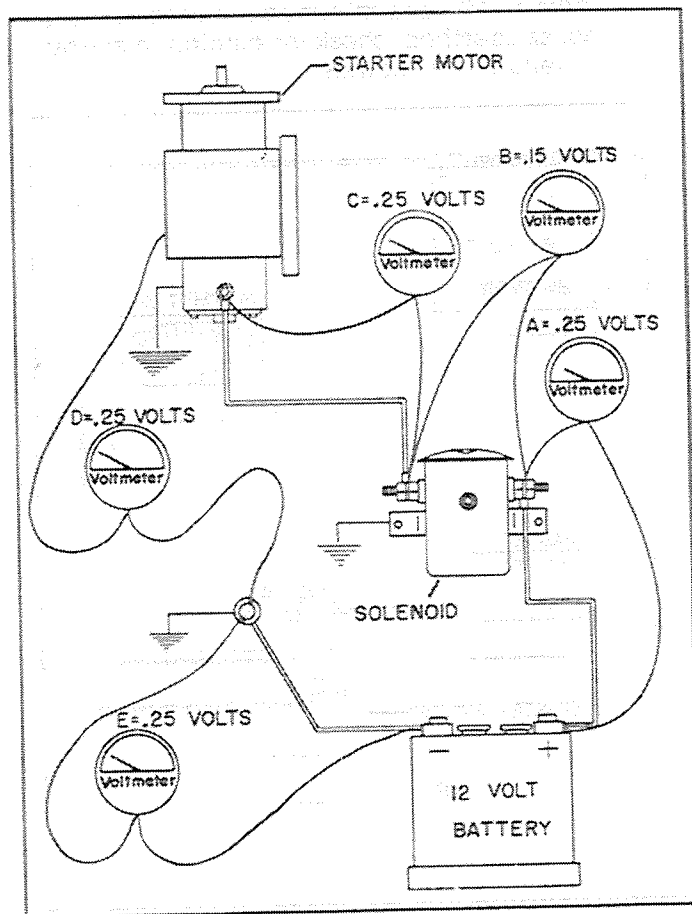

FIGURE 12
1. By making a systematic check from the positive battery terminal through the starting circuit and back to the negative battery terminal, any component or electrical connection having excessive resistance, thus causing high voltage drop and subsequent hard starting, can be pinpointed. Figure 12.